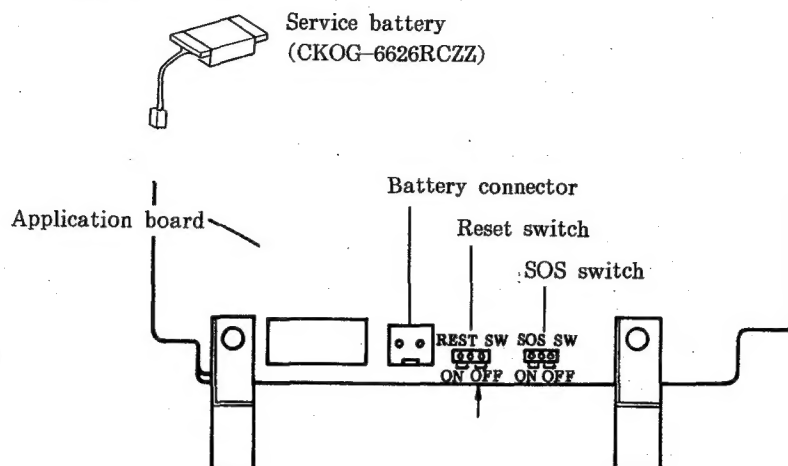
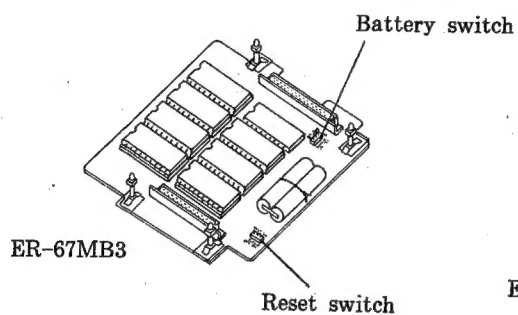
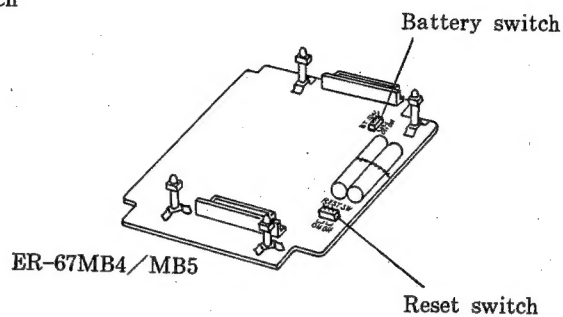

Fig.3
Fig. 5
Fig. 6
- a) Connect a service battery (CKOG-6626RCZZ) to the battery connector on the application board. (See Fig.3.)
- b) Set the reset switch to ON. (See Fig.3 above.)
(For switch positions, see Fig.3, Fig.5, and Fig.6.)